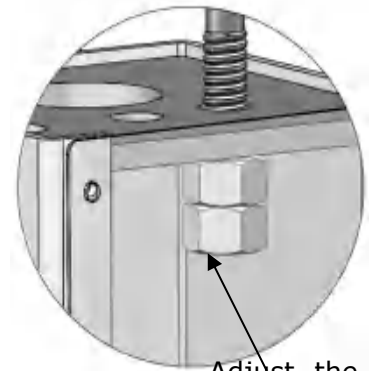

Fig. 51 Adjust the cable nuts
1. Adjustment of sync cable (See Fig. 51)